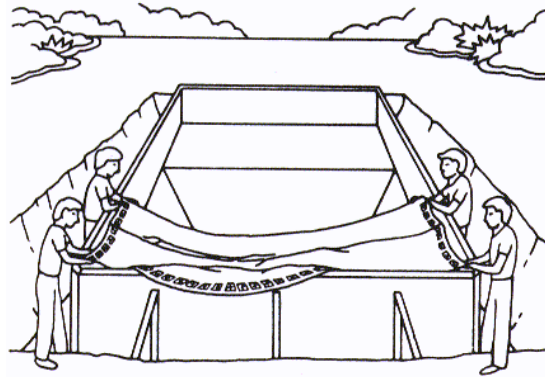

Figure 22 - Liner Unfolding
6. Remove the liner from the box. Place the liner in the deep end of the pool, with arrows facing the shallow end. Carefully unfold the liner. Have two people take the shallow end corners and pull the liner to the shallow end (see Figure 22), keeping the liner away from any sharp edges. **AVOID DRAGGING THE LINER ACROSS THE SAND BOTTOM.**